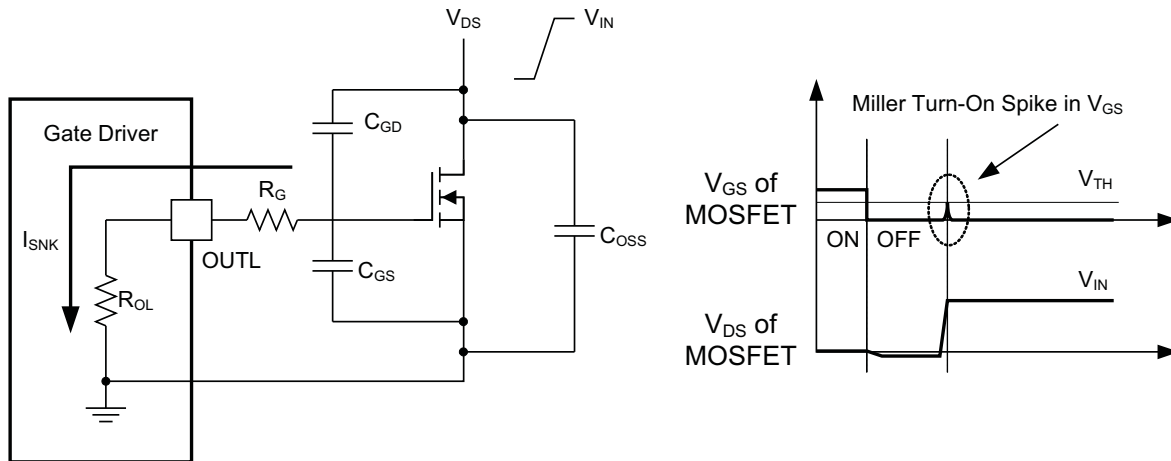

Figure 24. Very Low Pull-Down Impedance In UCC27511, 4-A/8-A Asymmetrical Drive (Output Stage Mitigates Miller Turnon Effect)
An example of a situation where Miller turnon is a concern is synchronous rectification (SR). In SR application, the dV/dt occurs on MOSFET drain when the MOSFET is already held in off state by the gate driver. The current discharging the C_{GD} Miller capacitance during this dV/dt is shunted by the pulldown stage of the driver. If the pulldown impedance is not low enough then a voltage spike can result in the V_{GS} of the MOSFET, which can result in spurious turnon. This phenomenon is illustrated in Figure 24. UCC27511 and UCC27512 offers a best-in-class, 0.375- Ω (typ) pulldown impedance boosting immunity against Miller turnon.